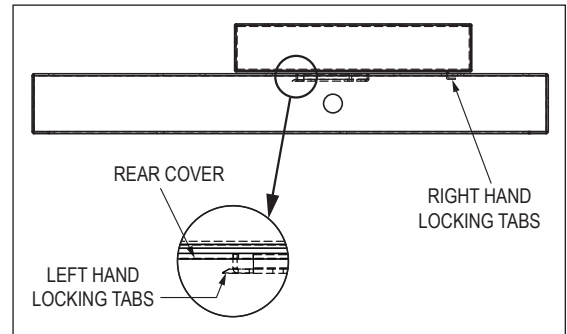

FIGURE 4
10. Refer to Figure 4. Press down firmly and slide the KVM Remote Module to the left until it stops with both left hand locking tabs securely inside the rear panel.